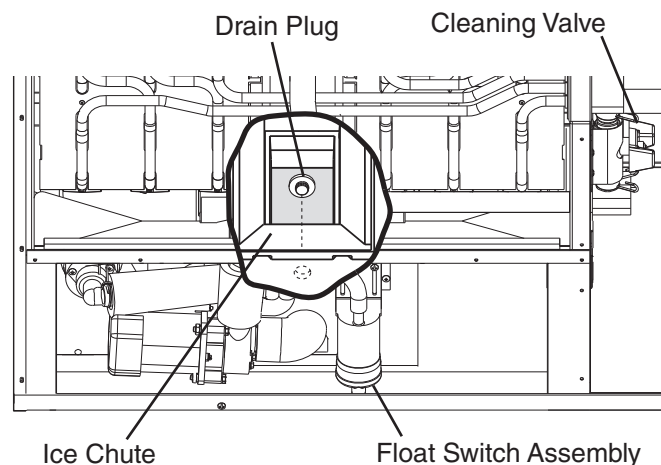

Fig. 19
- 7) Remove the insulation panel. Remove the drain plug located on the lower front part of the ice chute. See Fig. 19. Allow the water tank to drain.
- 4) Remove the front insulation panel, then remove the drain plug. See Fig. 19. After the water tank has drained, replace the drain plug and front insulation panel.